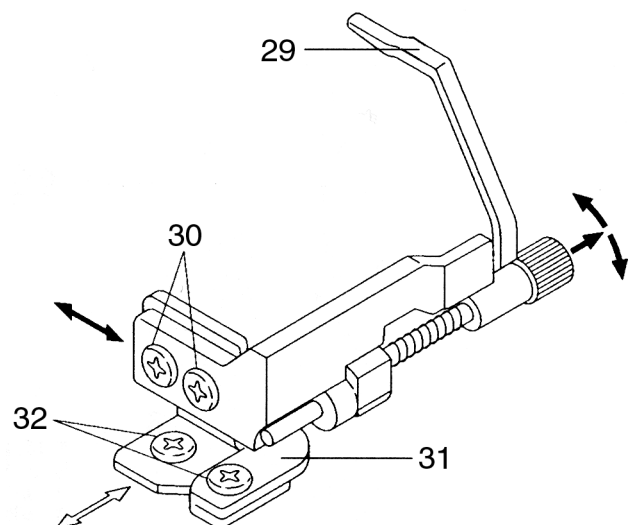

Fig. 46
- Slightly loosen the fastening screws 30 (fig. 46).